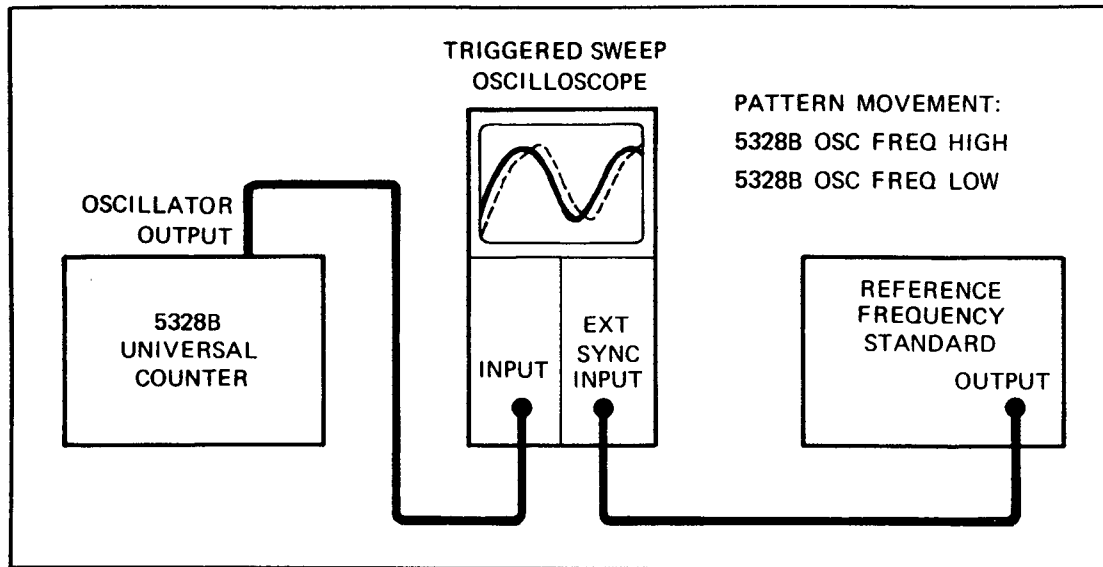

Figure 5-1. Oscillator Adjustment Setup
- a. Set up the equipment as shown in Figure 5-1.